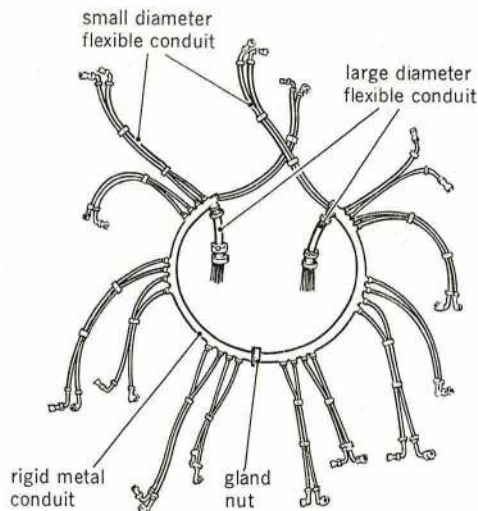

Fig 1.8.1 An ignition harness
4. In practice, an ignition harness consists of one or more rigid metal conduits to which are attached two large diameter flexible conduits leading to the magneto distributors, and a number of smaller flexible conduits connecting to the individual sparking plugs. The complete assembly is secured to the engine by attachment lugs on the rigid conduit. Each HT lead passes from the magneto distributor block, through a large bore flexible conduit and around the inside of the rigid conduit to the small flexible conduit leading to its sparking plug. Each lead has an identification sleeve at each end. An ignition harness is illustrated at Fig 1.8.1.